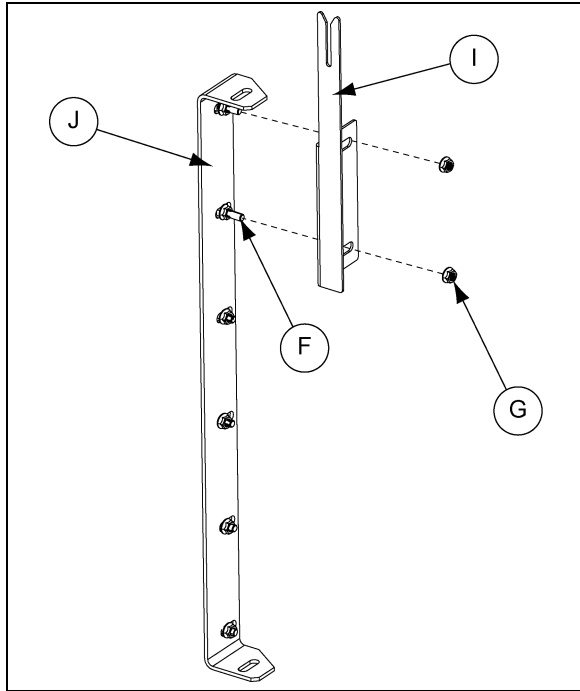

Figure 5
5. Install the louvered door latch hook (I) to the louver door hinge (J) using the 5/16" bolts (F) and nuts (G). (See Figure 5.)